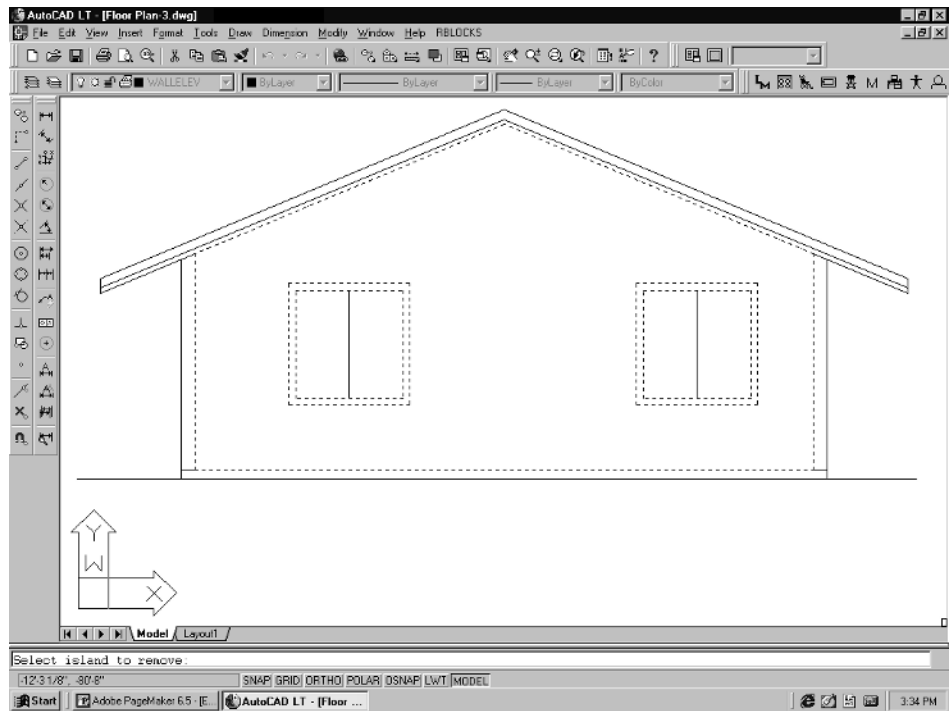

Figure 4-58
8. Pick the **Remove Islands** button. The hatching will be removed so that you can see all the boundary lines as in Figure 4-58. Notice that both the window and the window frame lines are “highlighted.” That is why the hatching is running through the windows. Only the outer frame should be “lit up.”